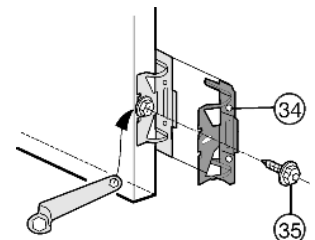

Fig. 11
- ▶ Screw all the mounting brackets Fig. 11 (34) to the pre-drilled holes in the appliance door using hexagon screws Fig. 11 (35).
- ▶ fit a 3rd pair of mounting brackets Fig. 11 (34).